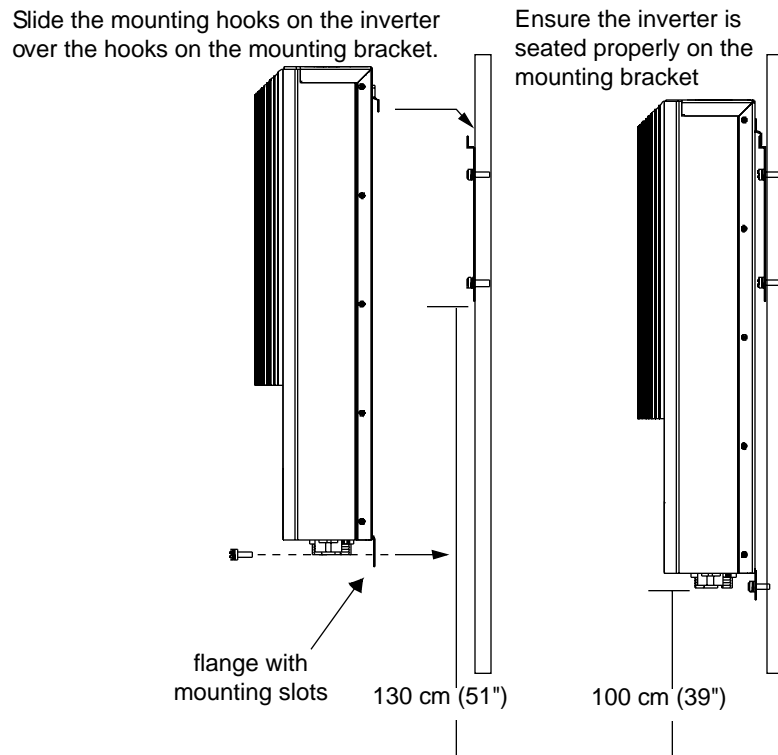

Figure 2-8 Proper Placement of the Inverter on the Mounting Bracket
1. Place the GT Inverter's mounting hook, located on the back of the enclosure, over the bracket and ensure the inverter is seated properly, as shown in Figure 2-8.